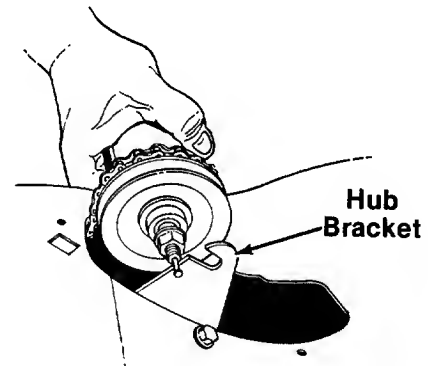

FIGURE 27.
9. Lift the three speed hub out of the three speed hub bracket. See figure 27.